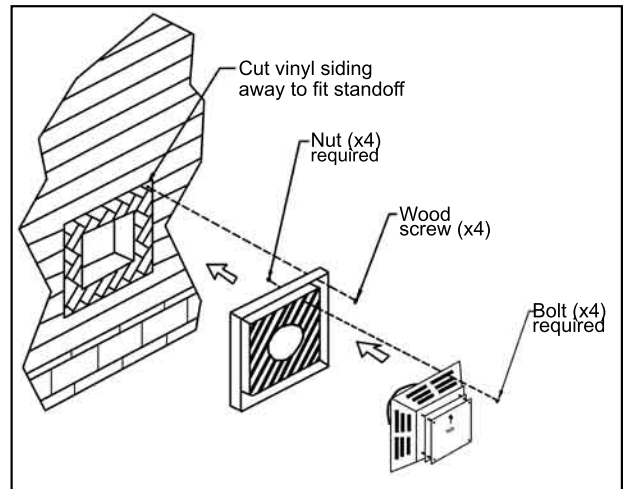

Figure 15: Installing Vent Cap with Vinyl Siding Stand-Off.
- (1) The four wood screws provided should be replaced with the appropriate fasteners for stucco, brick, concrete, or other types of siding.
- (2) For buildings with vinyl siding, a vinyl siding standoff, should be installed between the vent cap and the exterior wall (see Figure 15). Attach the vinyl siding standoff to the horizontal termination. The vinyl siding standoff prevents excessive heat from possibly melting the vinyl siding material. Note that the horizontal vent termination bolts onto the flat portion of the vinyl siding standoff (shaded area in Figure 15), so that an air space will exist between the wall and the vent termination.